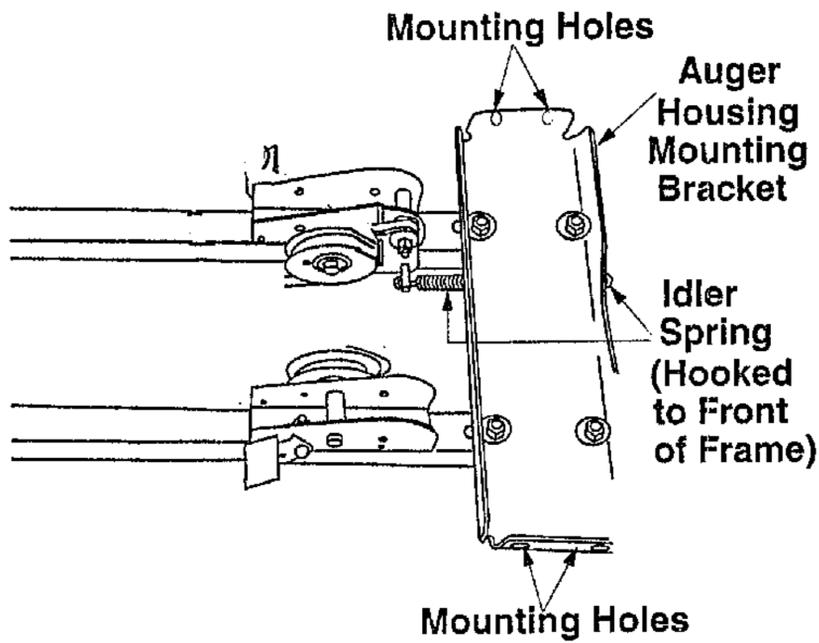

Figure 1
1. Lay front frame assembly on flat surface. See Figure 1.